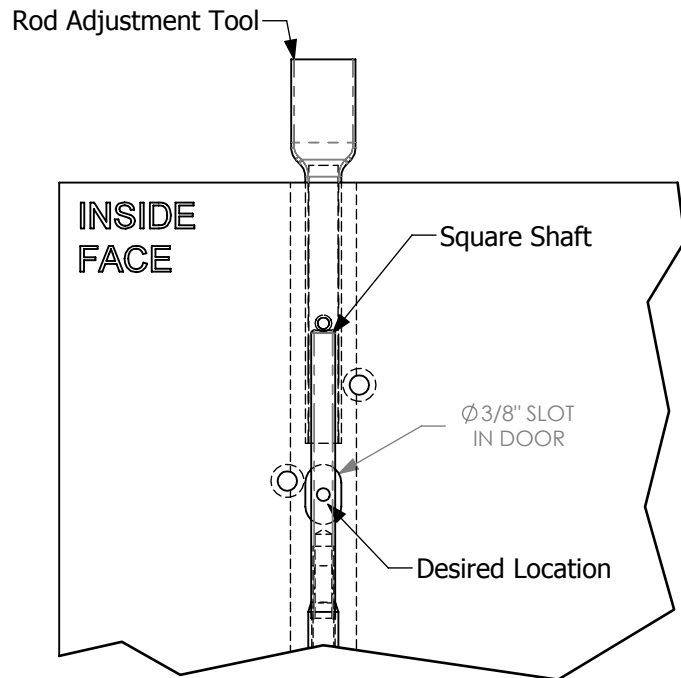

FIGURE 3
2. ADJUST until the hole on the square shaft aligns with the center of the slotted hole as shown in Figure 3.